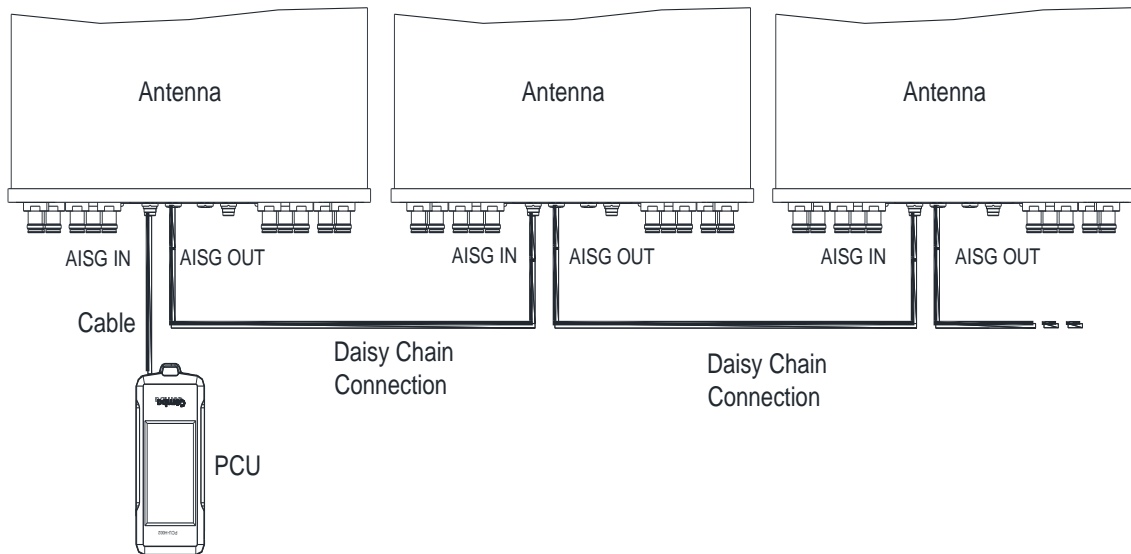

Figure 4-4 Multiple IRCU Daisy-Chain Cascade Schematic Diagram
d) If there is more than one IRCU need to be connect, daisy-chained cascade method can be used as show in Figure 4-4.